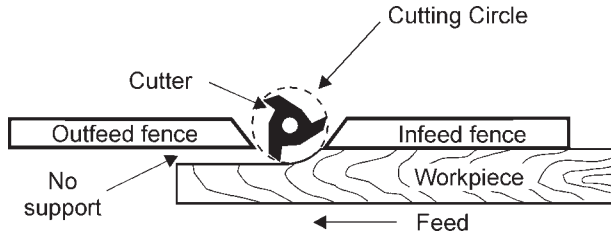

FIGURE 20a
2. When the shaping operation removes the entire edge of the stock, e.g. in jointing or making a full bead, the shaped edge will not be supported by the outfeed fence when both fences are in line, Figure 20a. In this case, the stock should be advanced to the position shown in Figure 20a and stopped. The outfeed fence should then be moved forward to contact the work, Figure 20b. The outfeed fence will then be in line with the cutting circle and the operation can continue.